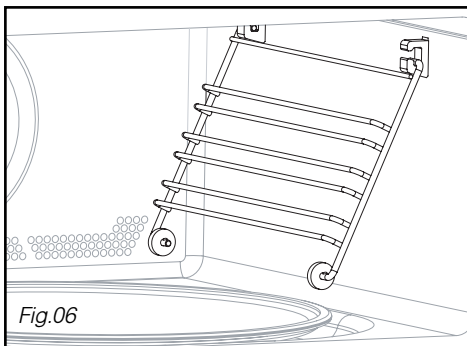

Fig.06
• **Side racks** (Fig.06): 2 two shelf supports with hooks allow you to use the grid at three heights.